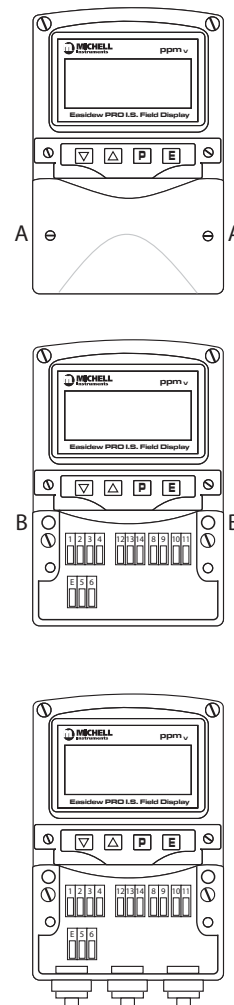

Figure 5 Installation Procedure
*Figure 5* illustrates the instrument installation procedure.